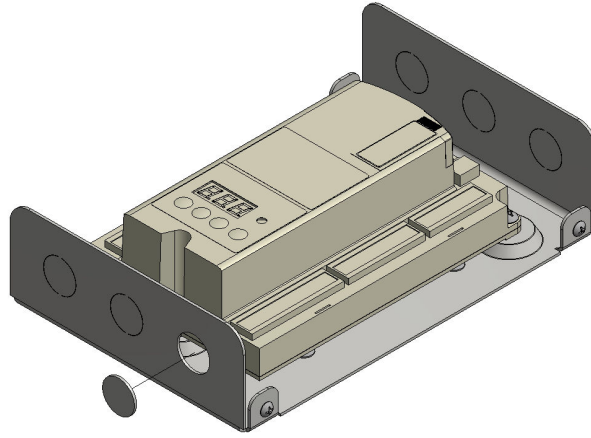

Figure 4: Conduit Port Removal
3. Knock out the required conduit ports as shown in Figure 4. A total of six conduit ports are available.